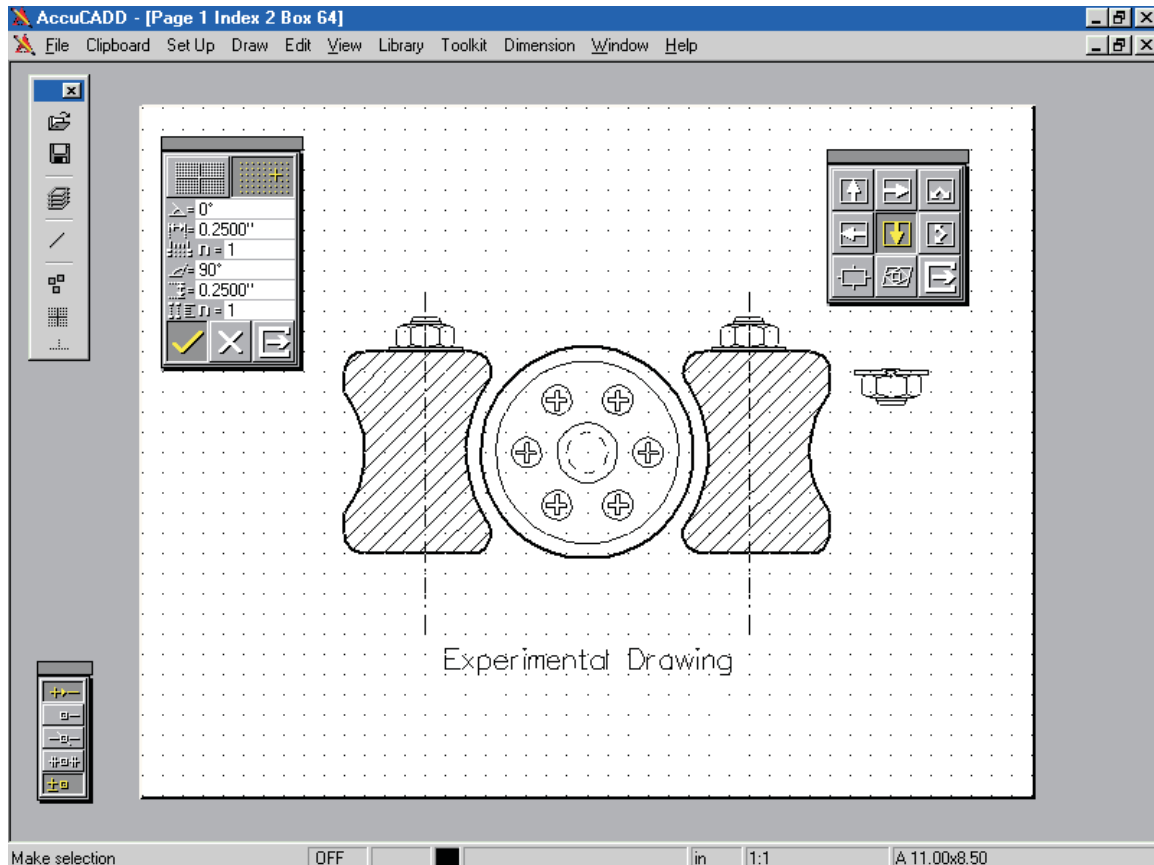

Figure 31: Simple transforms with Drag Insert
- Plant the two upper inserts as shown in Figure 31, snapping the insert handle to the appropriate grid point.